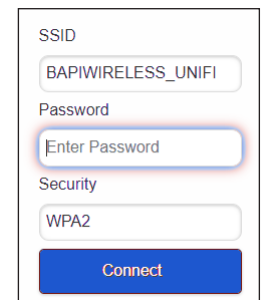

Fig. 4: Wi-Fi Network Password
3. Click on the desired Wi-Fi network from the "Scan List" and enter the password for that network (Fig 4). Click Connect.